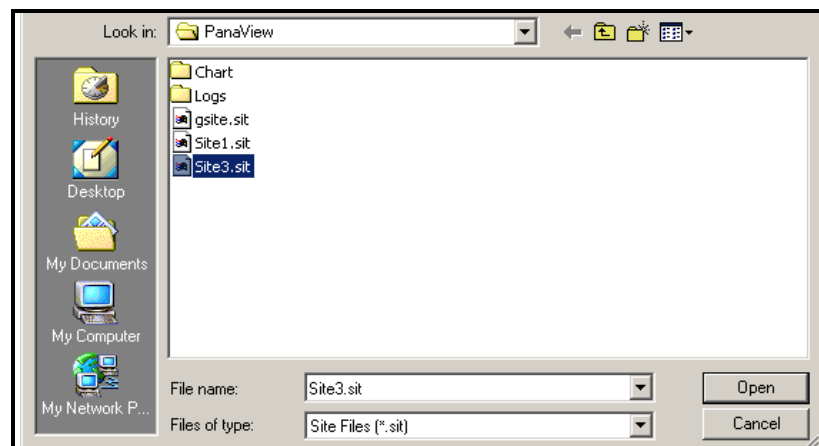

Figure D-15: Site File Selection
2. Then click on the *Save Site to Meter* button. A screen opens similar to Figure D-15 below.
3. The *Site File Selection* window (Figure D-15 on page D-12) opens. Highlight a site with the desired settings, and click [Open]. *PanaView™* saves the site in the meter with the new name and the desired settings.
3. The *Site File Selection* window opens (Figure D-15 on page D-12). Enter the desired site name (now with a .prt suffix) and click [Save]. *PanaView™* displays a text version of the site, as shown in Figure D-17 below.